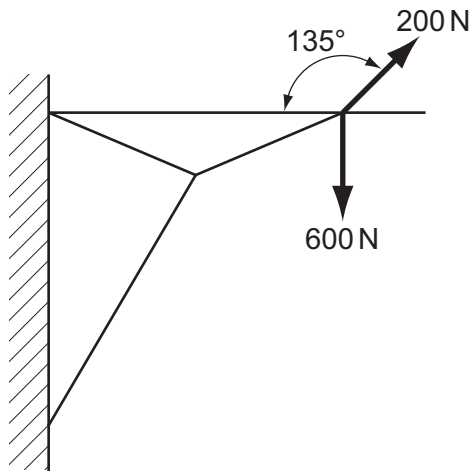

Fig. 11
- (e) Fig. 11 shows a framework fixed to a wall. Two forces are shown acting at a point on the frame.